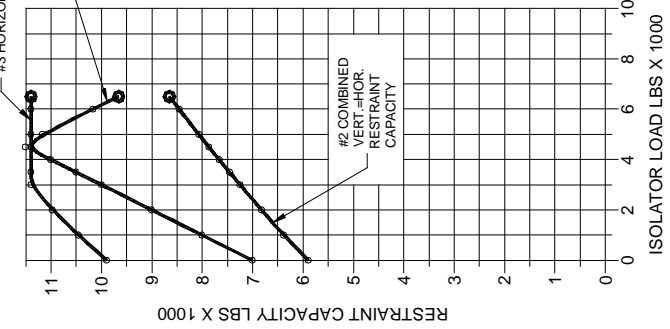

FIGURE 2
- 2.) DETERMINE WHETHER THE ATTACHMENT IS TO BE TO STEEL, SELECT FIGURE 2, OR CONCRETE, SELECT FIGURE 3.
- 3.) THE VERTICAL RESTRAINT CAPACITY @ THE LOAD DETERMINED IN STEP 1 IS READ FROM CURVE #1 (FIG. 2) OR CURVE #4 (FIG. 3) AND PLOTTED ON THE VERTICAL AXIS OF FIGURE 1.
- 4.) THE HORIZONTAL RESTRAINT CAPACITY @ THE LOAD DETERMINED IN STEP 1 IS READ FROM CURVE #3 (FIG. 2) OR CURVE #6 (FIG. 3) AND PLOTTED ON THE HORIZONTAL AXIS OF FIGURE 1.
- 5.) THE COMBINED RESTRAINT CAPACITY IS THE POINT WHERE VERTICAL & HORIZONTAL CAPACITIES ARE EQUAL. THE COMBINED RESTRAINT CAPACITY @ THE LOAD DETERMINED IN STEP 1 IS READ FROM CURVE #2 (FIG. 2) OR CURVE #5 (FIG. 3). DRAW A HORIZONTAL LINE FROM THIS VALUE ON THE VERTICAL AXIS, AND A VERTICAL LINE FROM THIS VALUE ON THE HORIZONTAL AXIS. THE INTERSECTION POINT IS THE COMBINED CAPACITY POINT FOR THE GIVEN APPLICATION.